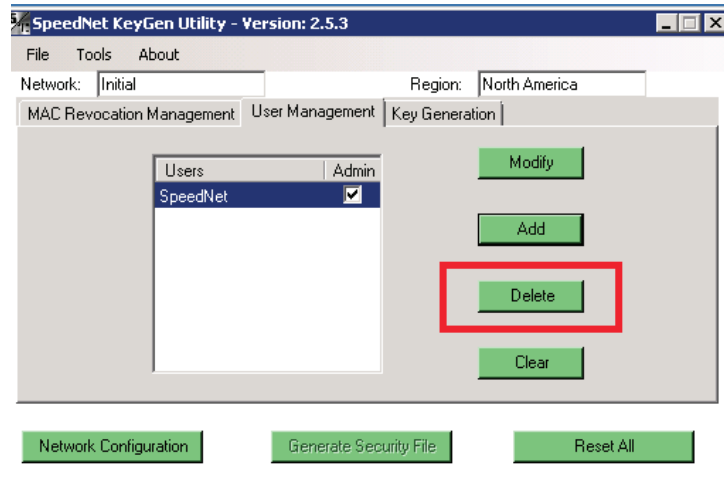

Figure 9. The KeyGen User Management window Delete button.
- STEP 12.** To delete a user from the users list, highlight that user’s name. Then click the **Delete** button. See Figure 9.